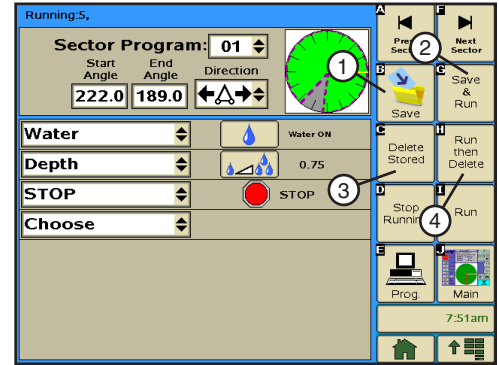

Figure 101-1 1. Save Button
5. Finish the program by selecting one of the following. Refer to Figure 101-1.